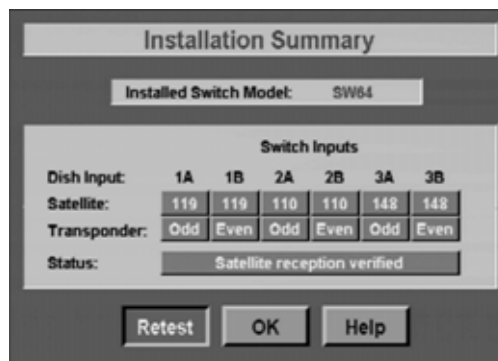

Figure 10. Legacy Installation Summary
- The summary screen in Figure 10 is similar to what should be shown for a Legacy receivers connected to the DISH Pro Plus Twin LNBF. Make sure the summary screen shows reception from 110W and 119W satellites and the third satellite location on all available satellite tuners. If not, consult your receiver user's guide to re-peak the dish antenna as needed. Note that the DP Plus Twin will be identified as SW64. This is OK and does not indicate a problem.